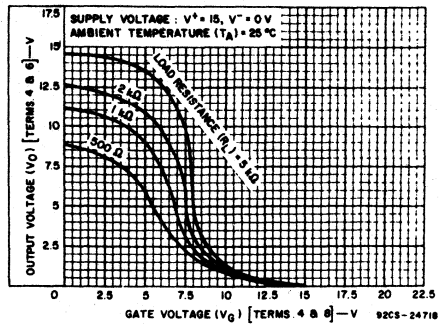
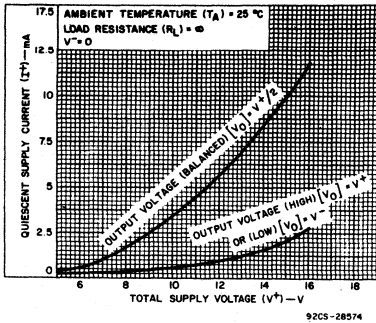
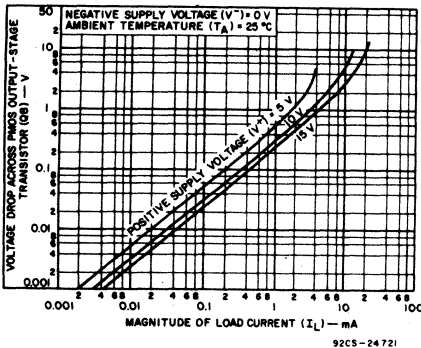

Fig. 6 - Voltage transfer characteristics of COS/MOS output stage.
Fig. 7 - Quiescent supply current vs. supply voltage.
Fig. 9 - Voltage across PMOS output transistor (Q8) vs. load current.
**Output Stage**—The output stage consists of a drain-loaded inverting amplifier using COS/MOS transistors operating in the Class A mode. When operating into very high resistance loads, the output can be swung within millivolts of either supply rail. Because the output stage is a drain-loaded amplifier, its gain is dependent upon the load impedance. The transfer characteristics of the output stage for a load returned to the negative supply rail are shown in Fig. 6. Typical op-amp loads are readily driven by the output stage. Because large-signal excursions are non-linear, requiring feedback for good waveform reproduction, transient delays may be encountered. As a voltage follower, the amplifier can achieve 0.01 per cent accuracy levels, including the negative supply rail.
the voltage-drops across Q8 and Q12 are of equal magnitude. Fig. 7 shows typical quiescent supply-current vs. supply-voltage for the CA3130 operated under these conditions. Since the output stage is operating as a Class A amplifier, the supply-current will remain constant under dynamic operating conditions as long as the transistors are operated in the linear portion of their voltage-transfer characteristics (see Fig. 6). If either Q8 or Q12 are swung out of their linear regions toward cut-off (a non-linear region), there will be a corresponding reduction in supply-current. In the extreme case, e.g., with Term. 8 swung down to ground potential (or tied to ground), NMOS transistor Q12 is completely cut off and the supply-current to series-connected transistors Q8, Q12 goes essentially to zero. The two preceding stages in the CA3130, however, continue to draw modest supply-current (see the lower curve in Fig. 7) even though the output stage is strobed off. Fig. 14a shows a dual-supply arrangement for the output stage that can also be strobed off, assuming  $R_L = \infty$ , by pulling the potential of Term. 8 down to that of Term. 4.
Let it now be assumed that a load-resistance of nominal value (e.g., 2 kilohms) is connected between Term. 6 and ground in the circuit of Fig. 14b. Let it further be assumed again that the input-terminal bias (Terms. 2 and 3) is such that the output terminal (No. 6) voltage is a  $V^+/2$ . Since PMOS transistor Q8 must now supply quiescent current to both  $R_L$  and transistor Q12, it should be apparent that under these conditions the supply-current must increase as an inverse function of the  $R_L$  magnitude. Fig. 9 shows the voltage-drop across PMOS transistor Q8 as a function of load current at several supply-voltages. Fig. 6 shows the voltage-transfer characteristics of the output stage for several values of load resistance.